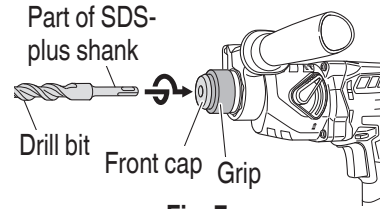
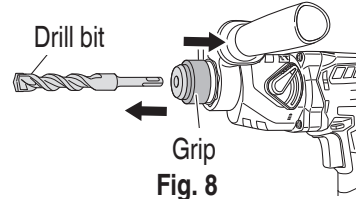

Fig. 7
Fig. 8
## 3. Mounting the drill bit (Fig. 7, Fig. 8)
- (1) Clean the shank portion of the drill bit.
- (2) Insert the drill bit in a twisting manner into the tool holder until it latches itself. (Fig. 7)
- (3) Check the latching by pulling on the drill bit.
- (4) To remove the drill bit, fully pull the grip in the direction of the arrow and pull out the drill bit. (Fig. 8)